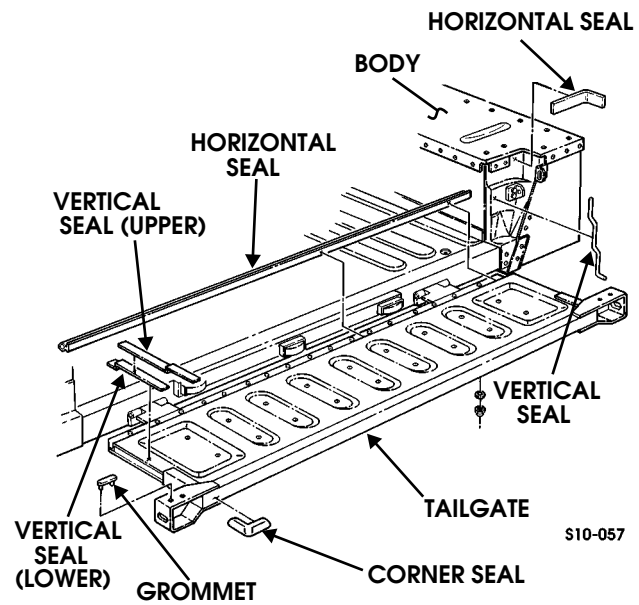

Figure 10-150: Tailgate Mounting Bracketry and Seal Location
4. Remove two vertical and horizontal seals from body and four vertical seals and one horizontal seal from tailgate. Remove two corner seals (station wagon model only). Discard seals (Figure 10-150).
1. Install two grommets on tailgate (Figure 10-150).